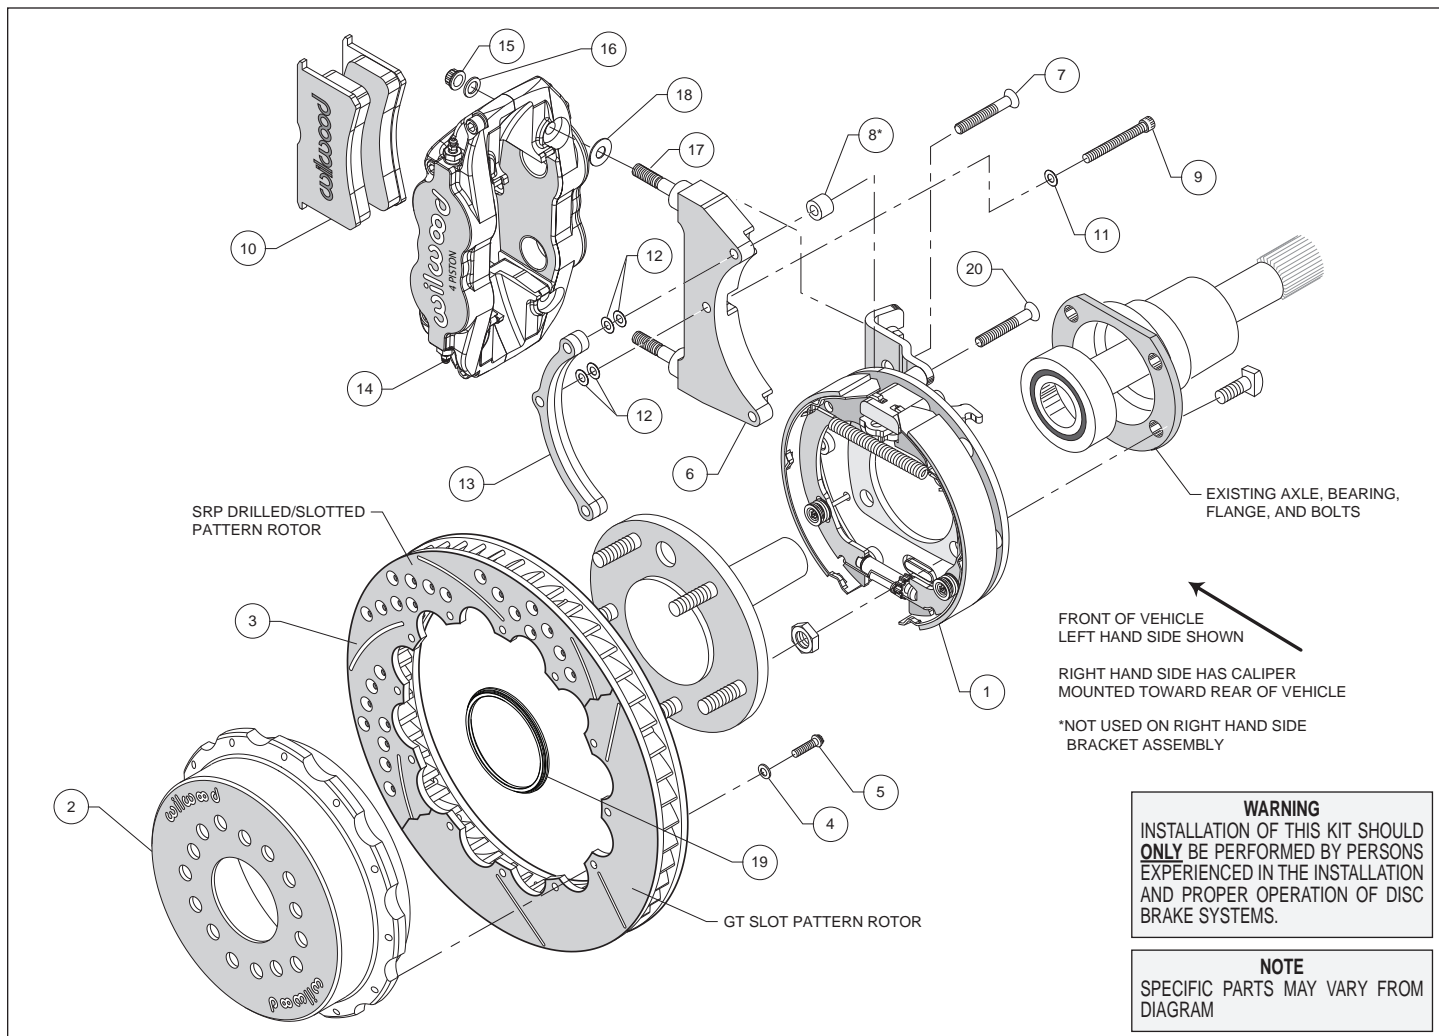
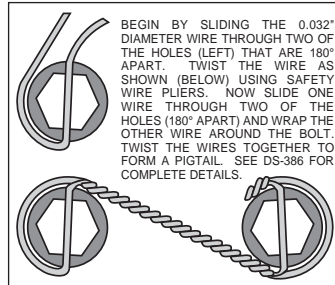

Figure 1. Typical Installation Configuration
Figure 4. Safety Wire Diagram
Assembly Instructions (numbers in parenthesis refer to the parts list and Figure 1 on the preceding pages): **CAUTION:** All mounting bolts must fully engage threaded holes.
- Orient the bracket assembly (1), as shown in Figure 1, and mount to the axle housing flange using the Original Equipment Manufacturer (OEM) bolts and nuts, Figure 1. Ensure that the bracket assembly backing plate fits flush against the axle housing flange. Apply red *Loctite*® 271 to the OEM bolt threads and torque to OEM specifications.
- **NOTE:** Please reference the caution statement at the beginning of the assembly instructions. The caliper mounting bracket assembly (6) should initially be installed with clean, dry threads on the mounting bolts. **NOTE:** The caliper bracket must tighten squarely against the back side of the bracket kit assembly (1). The ends of the bolts should not exceed inside face of insert. Later, after the caliper alignment has been checked, the mount bolts will be secured using red *Loctite*® 271.
Left Hand Side - Remove and discard temporary rubber spacer from bolt (7). Orient the left hand bracket (6) and 3-hole spacer (13) as shown in Figure 1 and Photo 1, and install using bolts (9) and washers (11) in the middle and lower hole locations, Figure 1. Use bolt (7) in the upper hole with spacer (8) placed between the bracket (6) and the cable stop bracket, Photo 1. Initially place two .015" shim washers (12) on each of the three bolts between the bracket and 3-hole spacer, Figure 1. Temporarily tighten the mounting bolts.
- Orient the rotor (3) and the hat (2) as shown in Figure 1 and Photo 3. Attach rotor to hat using bolts (5) and washers (4). Using an alternating sequence, apply red *Loctite*® 271 to the threads, and torque to 155 **in-lbs**. For an added measure of security, the bolts may be safety wired using standard 0.032 inch diameter stainless steel safety wire as shown in Figure 4. Please refer to Wilwood's data sheet DS-386 (available at www.wilwood.com/Pdf/DataSheets/ds386.pdf) for complete safety wire installation instructions.
- Slide the rotor registration adapter (19) onto the axle register on the axle flange with the smaller O.D. facing toward the rotor/hat (2/3), Photo 4. Align the correct hole pattern in the hat with the stud pattern on the axle flange and slide into place, Figure 1 and Photo 5. **NOTE:** The rotor/hat must fit flush against the axle flange or excessive rotor run out may result. Install three lug nuts (finger tight) to keep the rotor/hat assembly in place while continuing with the installation. **NOTE:** Some OEM and after market axles come with stud sizes larger than 0.50" diameter. Verify stud size and have a qualified machine shop drill the bolt circle of the hat/rotor to the correct stud size, if necessary.
- Lubricate the caliper mounting studs (17) with lightweight oil. Initially place one .035" thick shim (18) on each stud as shown in Figure 1 and Photo 6. Mount the caliper (14) onto the bracket (6) using lock nuts (15) and washers (16), Figure 1. Temporarily tighten the lock nuts and view the rotor through the top opening of the caliper. The rotor should be centered in the caliper, Photo 7. If not, adjust by adding or subtracting shims (12) between the bracket (6) and the 3-hole spacer (13). Always use the same amount of shims on each of the three mounting bolts. Once the caliper alignment is correct, remove the bracket mounting bolts (7 and 9) one at a time, apply red *Loctite*® 271 to the threads, and torque to 180 **in-lb**. Also, remove cable stop bracket bolts (20), apply red *Loctite*® 271 to threads and torque to 180 **in-lb**.